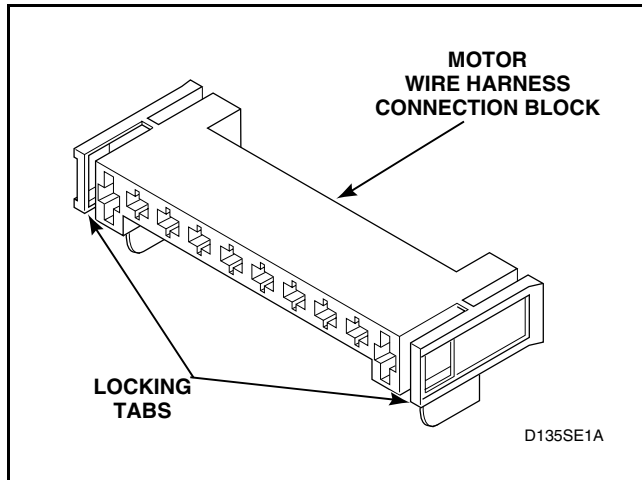

Figure 42
- Disengage motor wire harness connection block from motor switch by pressing in on the movable locking tabs (located on each end of the connection block) and pulling away from motor. Refer to *Figure 42*.
- (1) Disengage motor wire harness connection block from the motor by pressing in on the movable locking tabs (located on each side of the connection block) and pulling connection block away from motor. Refer to *Figure 42*.